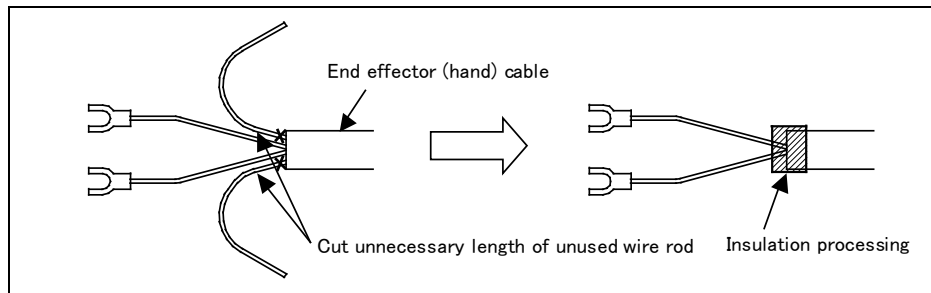

Fig. 5 (a) Treatment method example of RO1 to RO4 cable
- Cut and discard any unnecessary length of wire strand of the end effector (hand) cable. Insulate the cable with seal tape. (See Fig. 5 (a))